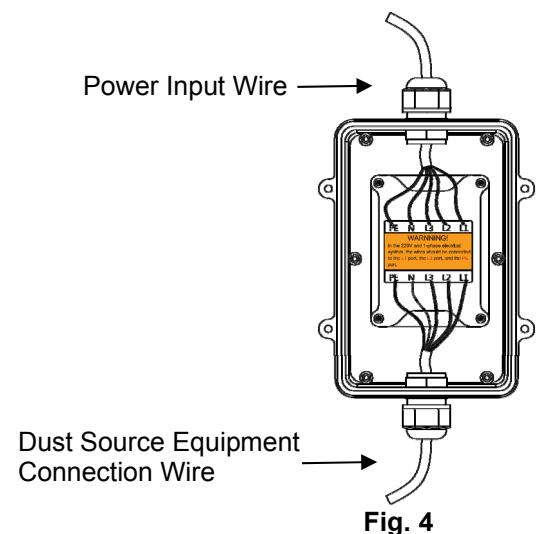

Fig. 4
- 2) Connect the synchronized control between the dust source equipment as shown in Fig. 4. The electrical phase wires should be connected to the L1, L2 and L3 ports. The grounding wire should be connected to the PE port and the neutral wire should be connected to the N Port.